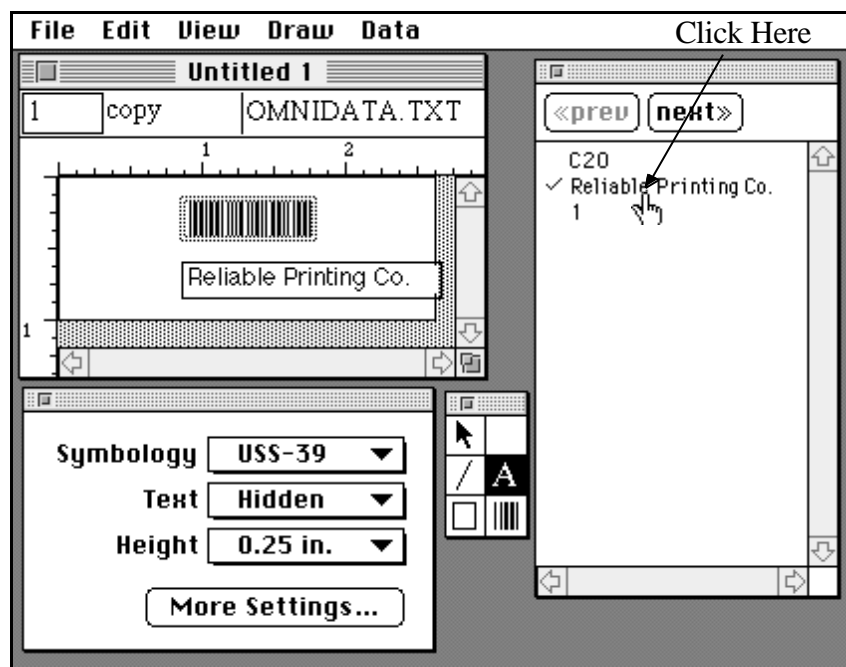

Figure 2-21 Attaching Data to a Text Object
12. Move the pointer to the data palette. Click on the second data field and a text object is automatically created based on the second field in the data file. See Figure 2-21.